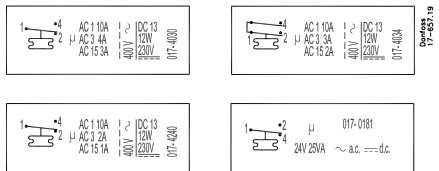

Fig. 7
Contact load: See switch cover or fig. 7. The marking, e.g. 10 (4) A, 400 V ~ AC means that max. connection current is 10 A ohmic and 4 A inductive at 400 V ~ AC. The max. starting current on motor cutin (L.R.) may be up to seven times the inductive load – but max. 28A.
Kontaktbelastning: Se kontaktdækslet eller fig. 7.